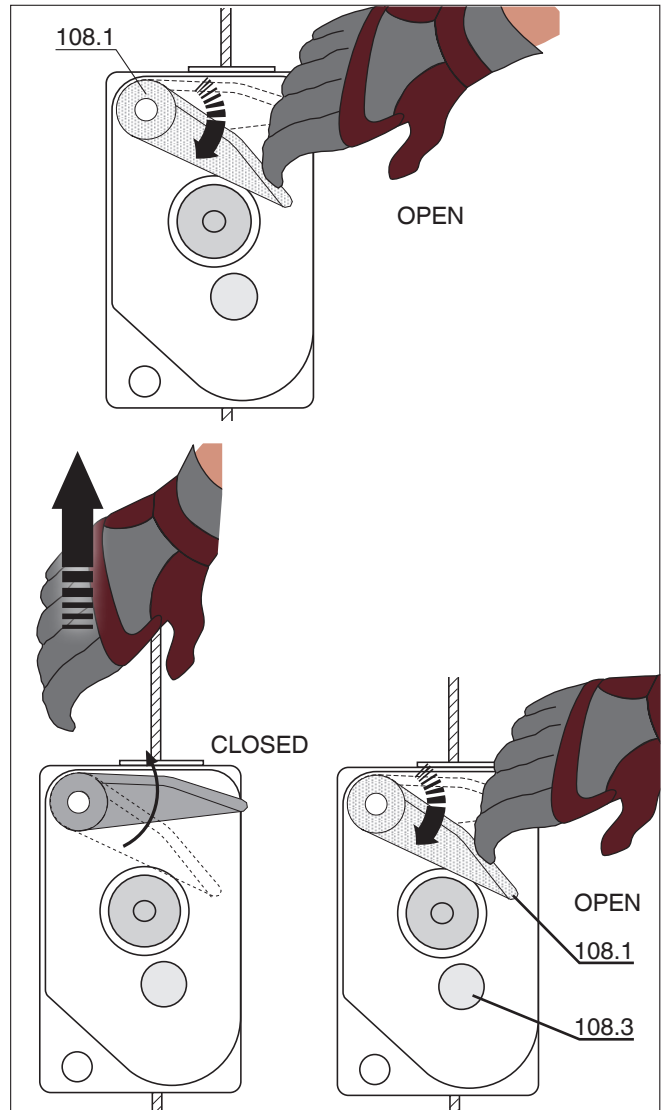

Fig. D.7.4 – Functional test 2
2. Pull sharply upwards on the safety wire rope (Fig. D.7.4).